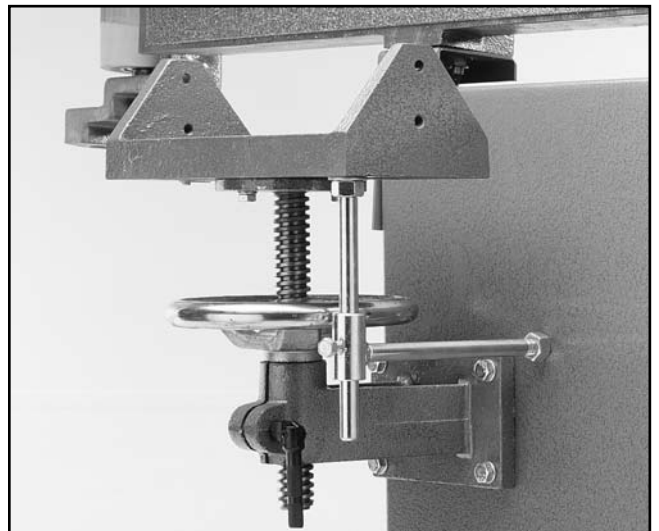

Figure 7. Horizontal / vertical brace installed.
5. Install the hex nut and washer provided, and screw on until 1/2" of the threaded end is visible above the washer. Insert the threaded end of the vertical brace through the hole in the bottom of the table bracket and re-install the flat washer and hex nut back onto the shaft. **See Figure 7.**